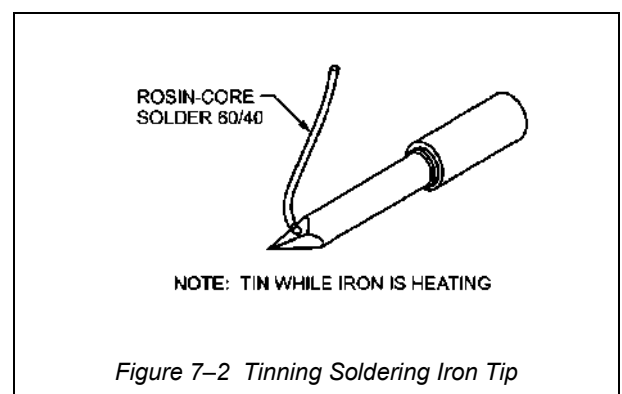

Figure 7-2 Tinning Soldering Iron Tip
- b. Plug in the iron and apply cored solder just as the bright dressed copper colour is turning to a pigeon-blue, bronze, oxide colour. This will allow the flux to "wet" and clean the working area when the solder melts to form an even, bright silver coating on the tip. (See Figure 7-2.)